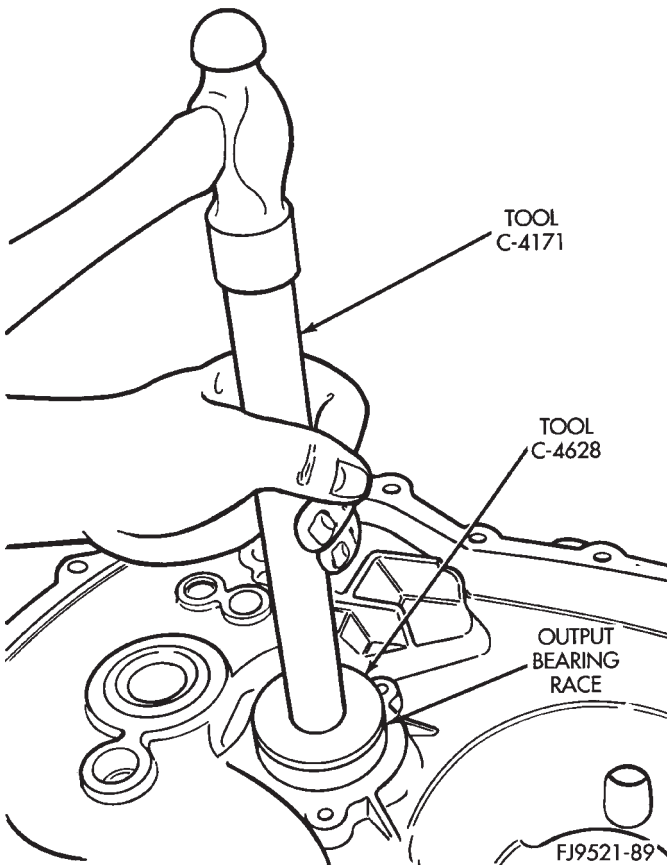

Fig. 135 Output Bearing Race Installation
(1) Line up output bearing race to race bore.
(2) Insert tool #4628 with C-4171 into output bearing race (Fig. 135). Tap race into bore. Install output bearing into race. Verify that the larger diameter cage is facing outward. Position bearing retaining strap. Tighten bolts to 11 N·m (96 in. lbs.).